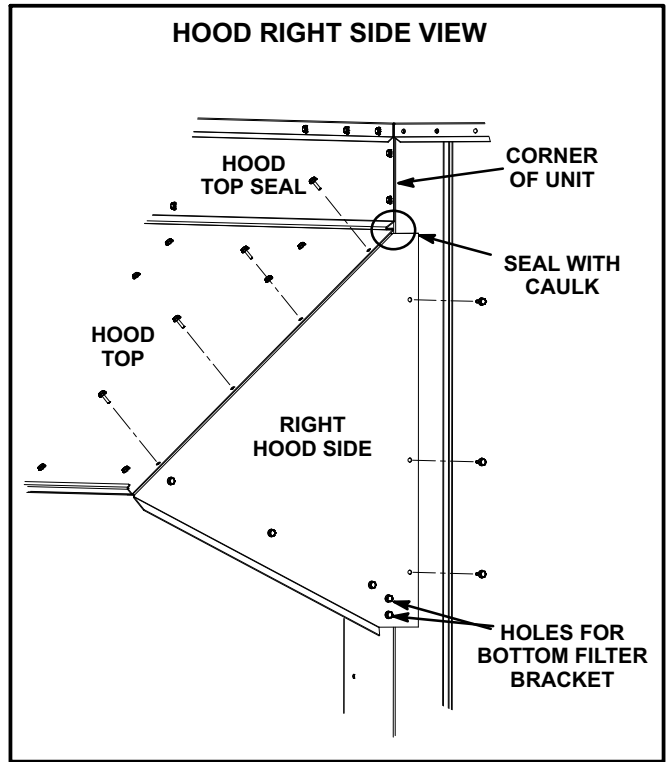

FIGURE 14
- 11- Secure the right hood side to the hood top. See figure 14. Do NOT secure the right hood side to unit.
- 14- Secure the right hood side to the unit as shown in figure 14.